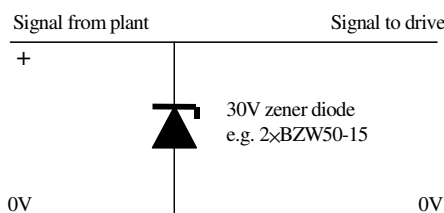

Figure 1 Surge suppression for digital and uni-polar analogue inputs and outputs
3. Additional over-voltage suppression. This applies to analogue and digital inputs and outputs. A zener diode network or a commercially available surge suppressor may be connected between the signal line and 0 V as shown in Figures 1 and 2.